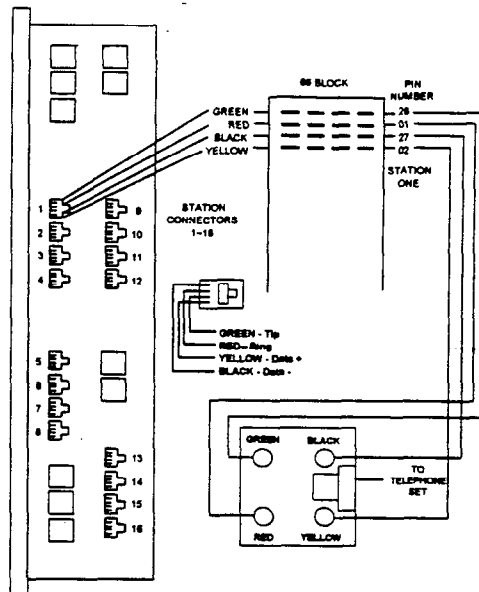

Figure 9
4. As Station number 7 and 8 are available for keyset/SLT, make sure that the DIP switches located on the main PCB are set as shown in Figure 9.